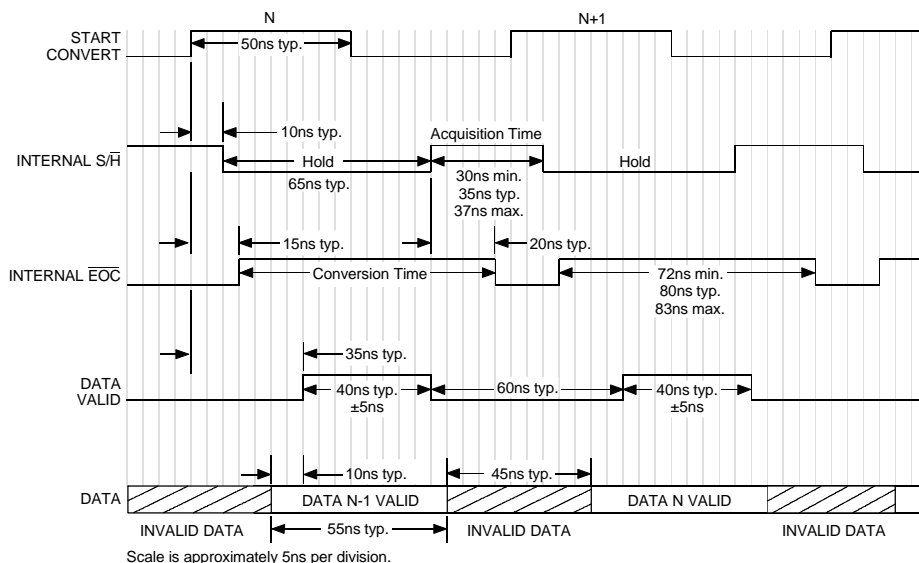

Figure 2. ADS-119 Timing Diagram
4. Data is valid only for the time period (55ns, typical) shown in Figure 2 even if the device is sampling at less than 10MHz.